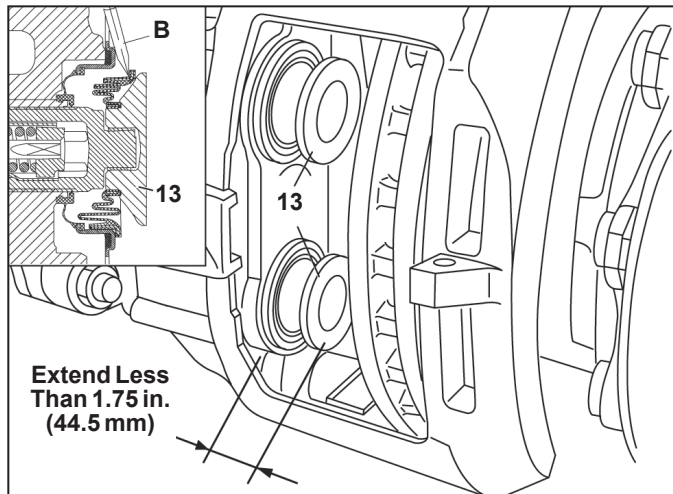
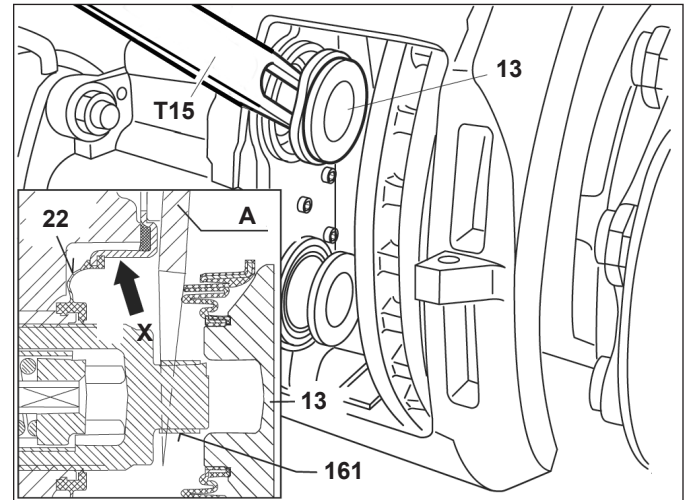

Figure 47 – Permitted Tappet Extension
Figure 48 – Wedge Tool Use
CAUTION: NEVER EXTEND THE TAPPET MORE THAN 1.75 in. (44.5 mm). See Figure 47. Over-extending the tappet will result in the tappet losing engagement with the threads of the synchronizing mechanism. Since the mechanism can only be set at the manufacturing plant, the caliper/carrier assembly must be replaced if this happens.
4.5.4 See Figure 47. Extend the tappets – less than 1.75 in. (44.5 mm) – by turning the shear adapter (61) clockwise. A screwdriver (callout “B” in Figure 47 inset) should be used to move the boot and allow the wedge fork (“A” in Figure 48) to be inserted.
CAUTION: DO NOT INSERT THE SCREWDRIVER MORE THAN ¼ IN.. Take care not to damage the inner sealing face (see arrow “X” in Figure 48). Gouges or grooves will prevent a good seal and will require that the caliper be replaced.